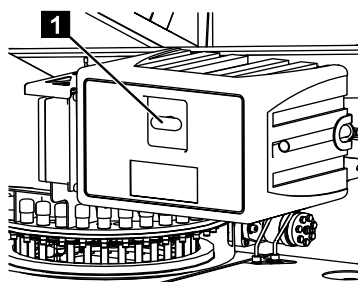

Fig. 212
1. Pull the cap off the lock (Fig.212/1).
2. Unlock the stowage space by turning the key clockwise in the lock (Fig.212/1).